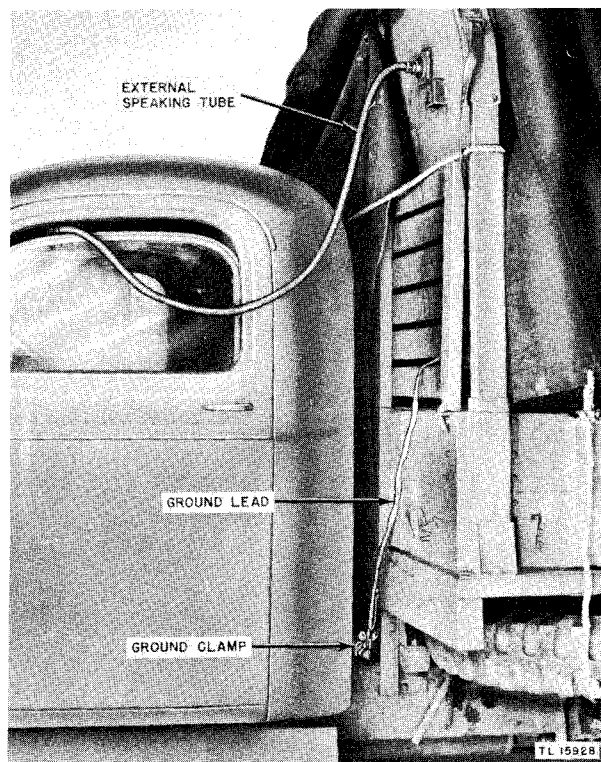

Figure 28. Speaking tube and ground lead from Shelter HO-17-A to truck.
(8) Attach the flexible section of the speaking tube to the fitting at the front of the shelter, and route the speaking tube into the left-hand truck window. (See fig. 28.) Hook the speaking tube mouthpiece inside the truck cab where it will be convenient to the driver.
(9) Attach one end of the ground strap to the terminal at the front of the shelter. If the truck has a metal body, bolt the other end of the ground strap to the nearest available point. If the truck has a wooden body, run the ground strap to the nearest point on the metal chassis and clamp it securely. (See fig. 28.) Connect an